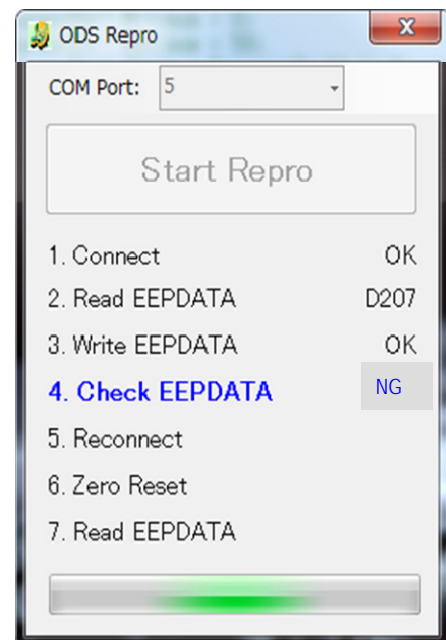

Figure 13
- If the OCS reprogramming stops (displays NG) at item 5, 6 or 7, refer to Figures 13 through 15 on pages 10 and 11.